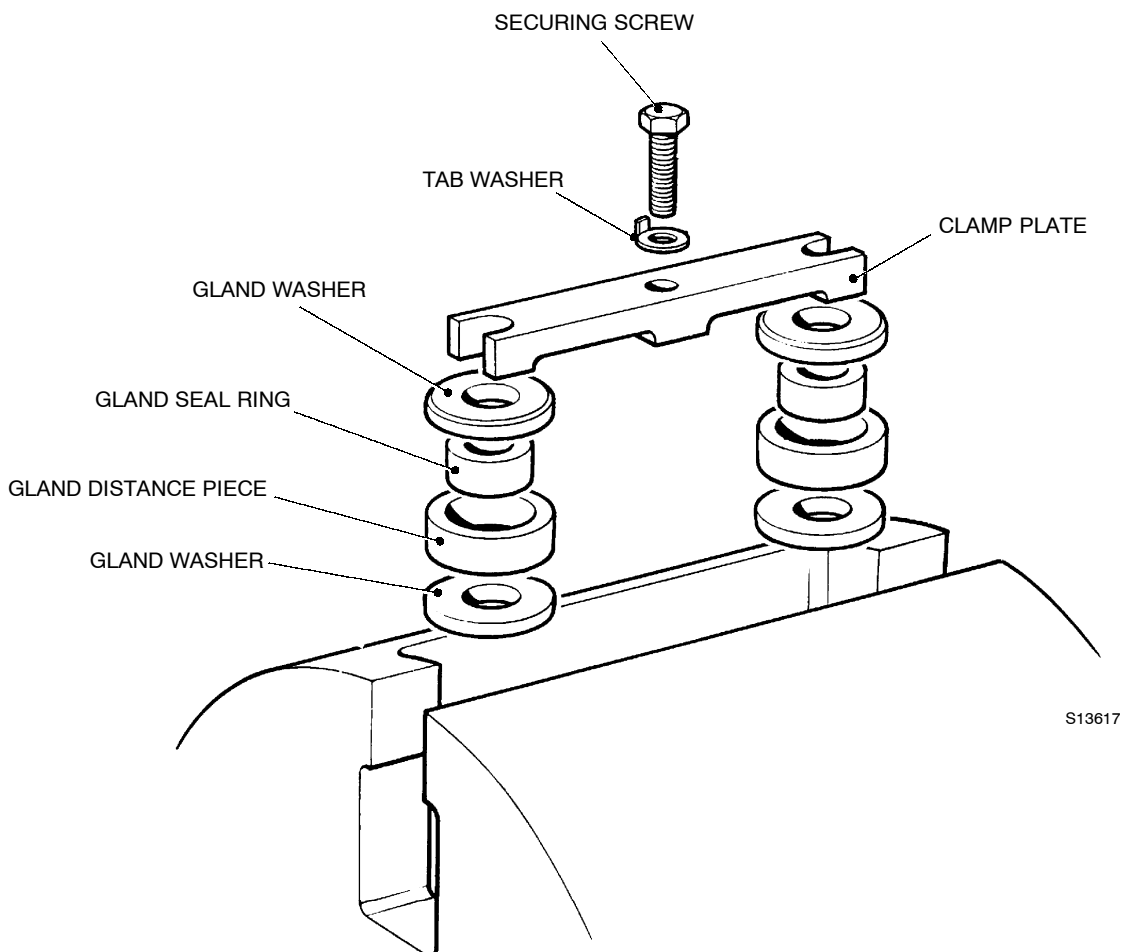

FIG 5.4 GLAND ASSEMBLY
- 5.17 To dismantle each assembly (refer to Fig.5.4), bend down the tab washer (33), remove the securing screw (34) and clamp plate (32). Stretch a piece of cloth over the rotor recess to collect the parts and turn the rotor upside down and allow the gland assemblies to fall.
- 10.14 Assemble each gland as shown in Fig 5.4 (the chamfered edges of the lower gland washers (29) face downwards). Ensure that each gland assembly is located in its correct rotor recess.